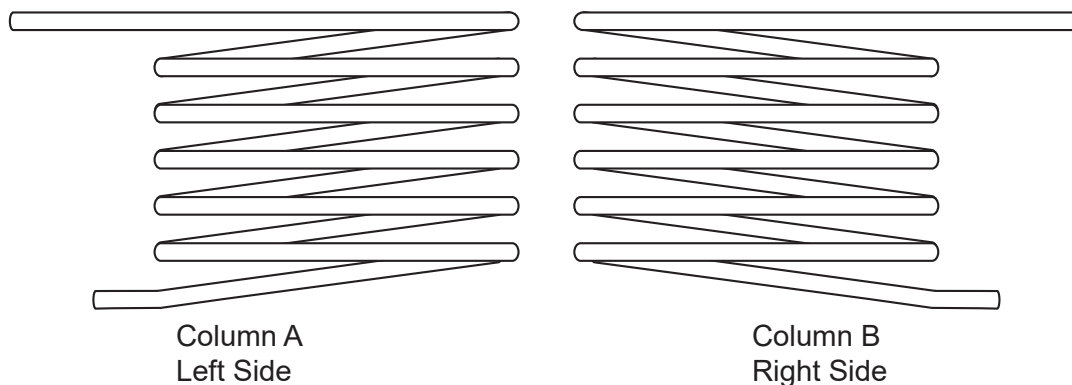

Figure 4-2
The oven is designed to accept twelve (12) feet of 1/4" tubing. Correspondingly longer lengths of 1/8" tubing can be wound on a mandrel of 4" o.d. Columns of 1/8" o.d. with 1/4" ends can be ordered from GOW-MAC. Figure 4-2 illustrates columns "A" & "B". An appropriate column or bypass must be installed in both "A" and "B" sides or damage will result to the detector.